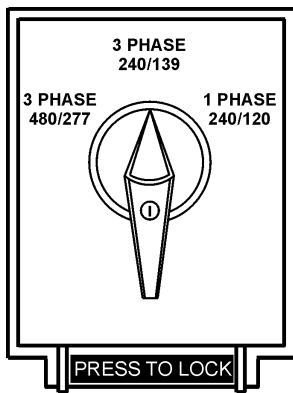

Figure 13. Voltage Change-Over Board
A wide range of voltages are available to supply voltage for many different applications. Voltages are selected by using the **voltage selector** switch (Figure 13). To obtain some of the voltages as listed in Table 7 (see below) will require a fine adjustment using the **voltage regulator (VR) control knob** located on the control panel.
The voltage selector switch (Figure 13) is located above the output terminal panel's Hard Wire Hook-up Panel. It has been provided for ease of voltage selection.